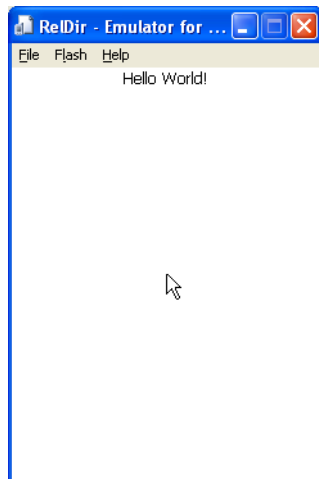

Figure 3-13 Replacing the standard shell with a Subproject_Shell application
9. Verify that the target device runs the Subproject_Shell application in place of the standard shell, as illustrated in Figure 3-13.